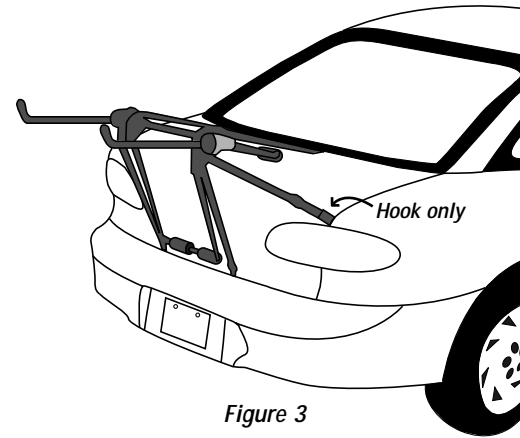

Figure 3
6. Place the XPORT Porter on your vehicle. Attach the two upper hooks into the gap at the leading edge of the trunk or hatch lid. Adjust the length of the straps so as to correctly position the rack. See figure 3. Do not attach top hook to glass or metal trimmed glass.